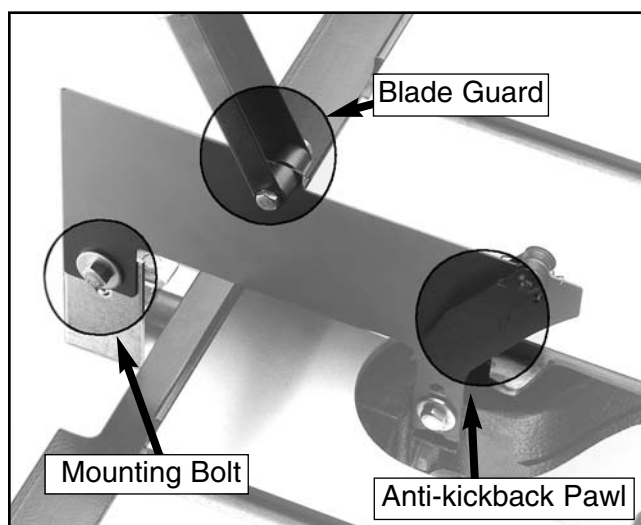

Figure 17. Blade guard and splitter in place.
2. Slip the blade guard/splitter over the mounting bolts as shown in **Figure 17**. The washers should be between the bolt head and the slots. Tighten the bolts to secure the blade guard/splitter.